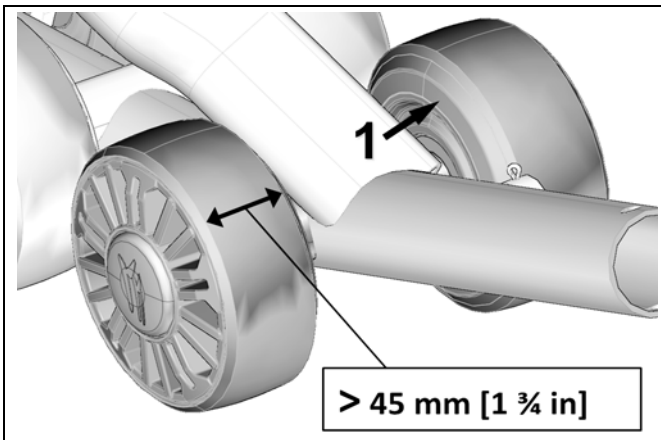

Figure 30
Verify wear on wheels especially on the interior guidance strip (Figure 30). The wheel must be replaced if the inner surface (1) is perforated or when the wheel's rolling band narrows to less than 45 mm wide. A wheel that is excessively worn will not offer enough support to guide the track.